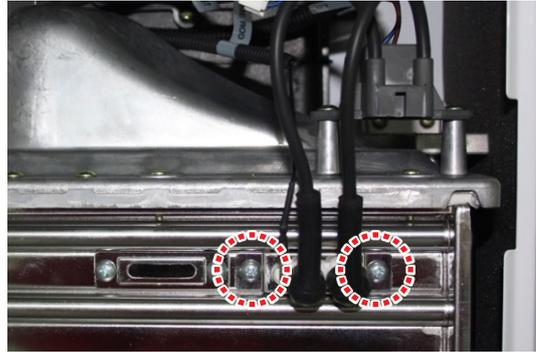

Figure7
5. Remove the 2 screws from the flame rod as shown in figure 7 below.
9. Place the new flame rod back onto the burner assembly and secure it by using the 2 screws from figure 7.